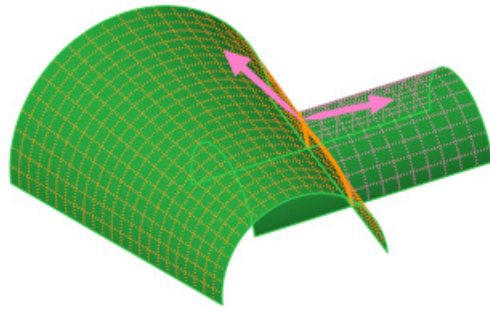

Figure 15-60 Arrows showing the part of the surface to retain
2. Choose the **Side of 1st Quilt to Keep** button and then choose the **Side of 2nd Quilt to Keep** button. Notice that the outer side of the surfaces are highlighted with dots, as shown in Figure 15-60.